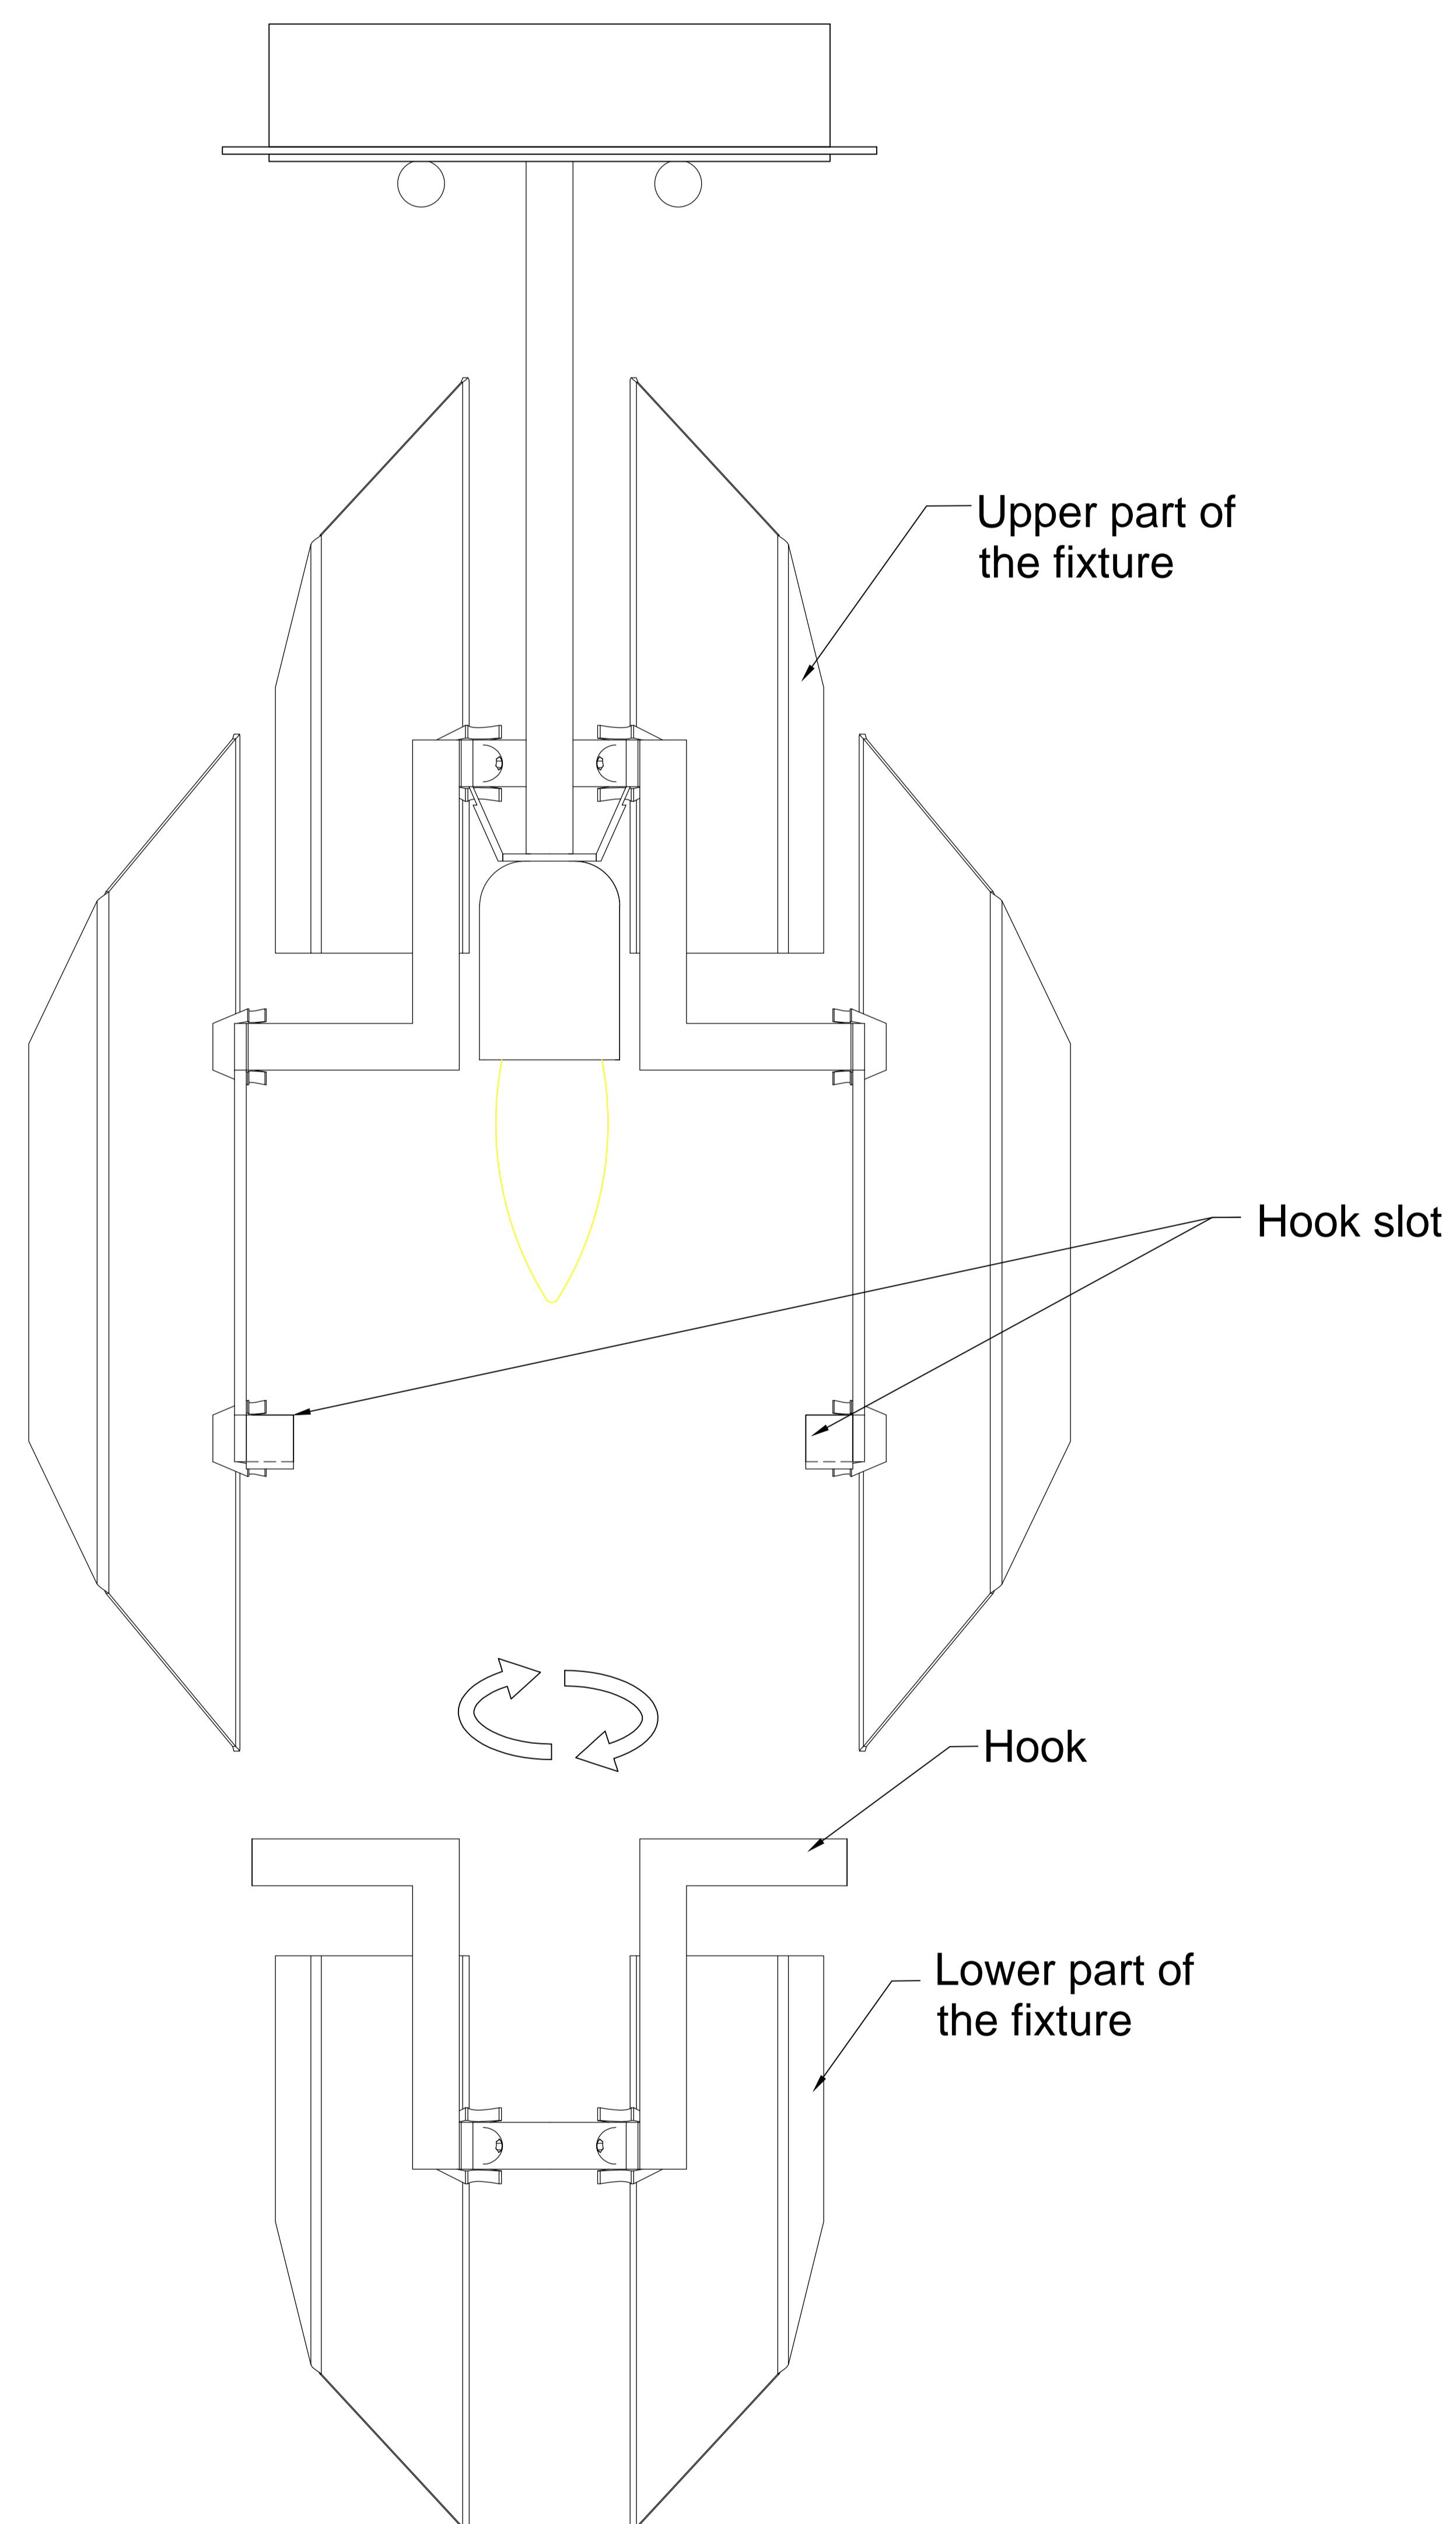

FIGURE-05
10. Attach the lower part of the fixture to the upper part. Align the hook to the hook slot of the upper part of the fixture then twist and hang it. Make sure to hang every single hook. (See Figure-05)